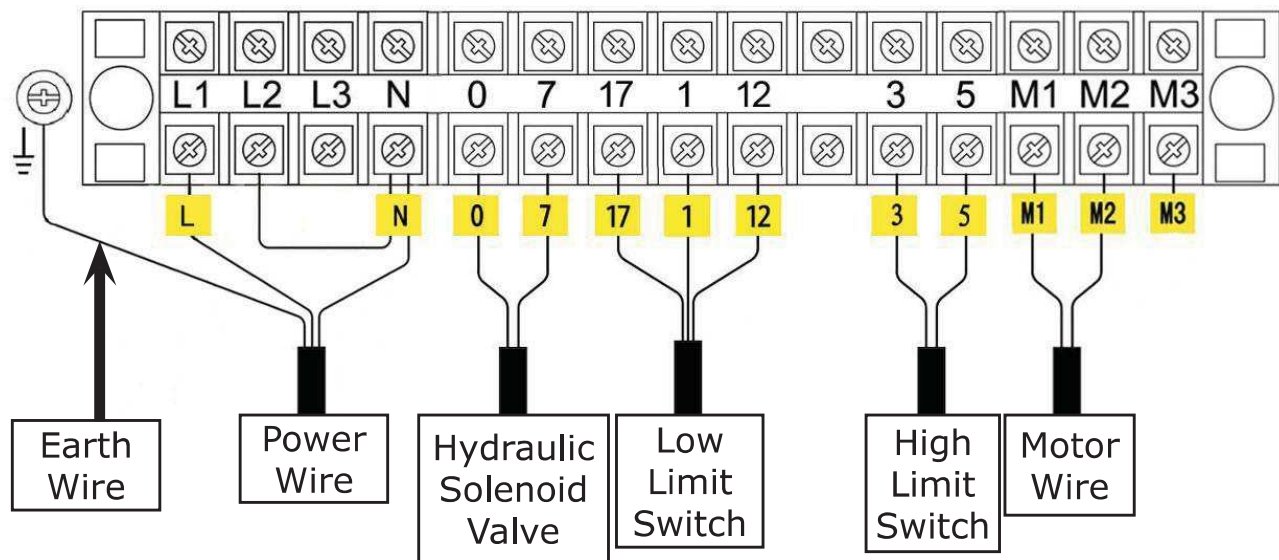

Fig. 21
3.1 Connect the power wire and limit switch wire according to the Wiring diagram (**See Fig. 21**)